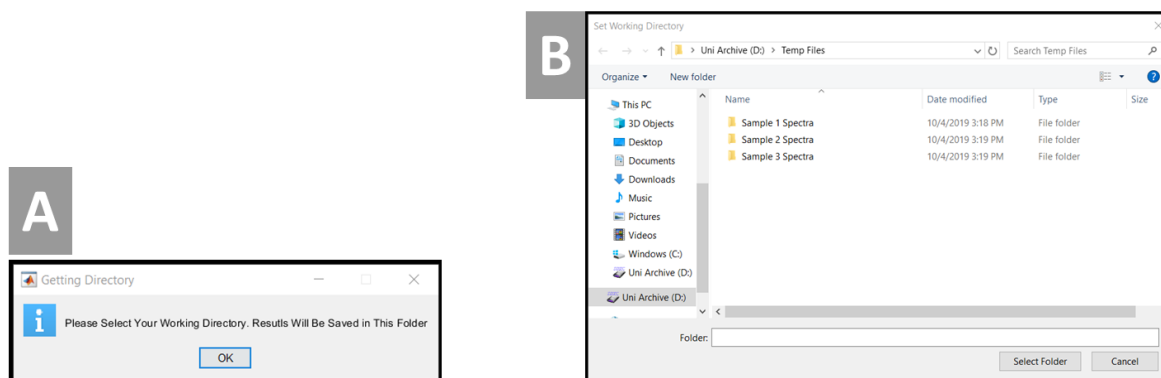

Figure 12: Select working directory. Prompt for selecting working directory (A); File explorer window for setting directory (B).
- User will be prompted to select working directory at the beginning of the analysis process, (Fig. 12) within which, all analysis results will be saved.